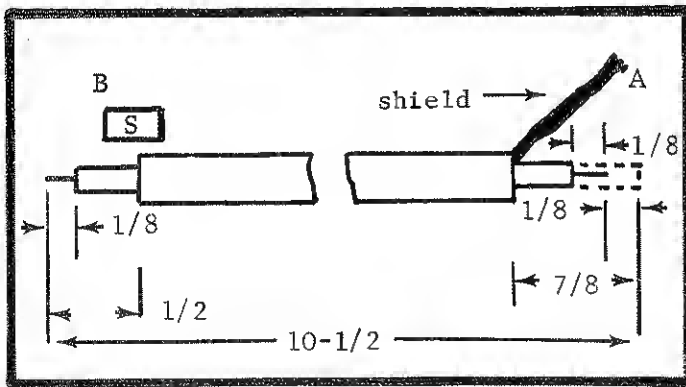

FIGURE 5. Dimensions for Cable #2 for Resistance Programing. Dimensions are in inches.
c. Prepare the 10-1/2 inch cable #2 in the same manner as cable #1. Refer to Figure 5.